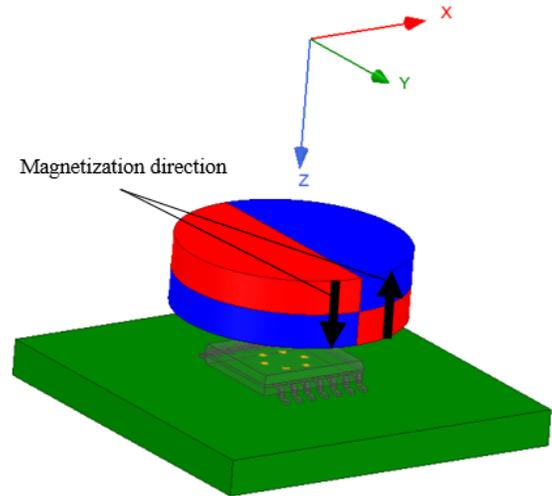

Figure 5: Isometric view of the A33023 and the cylinder magnet with four poles axial magnetization
- A four poles ring, cylinder, or block magnet with the magnetization parallel to the axis of rotation (Figure 5).